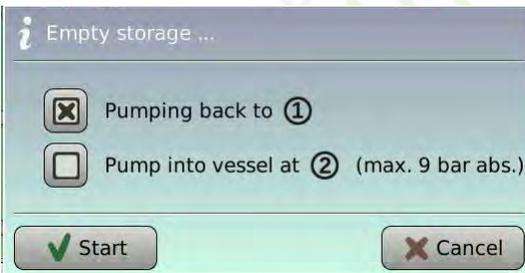

Fig. 6.08
Choosing the second option (see Fig. 6.08) you will have to connect a pressure vessel able to withstand minimum 10 bar absolute to the correct outlet port ②.